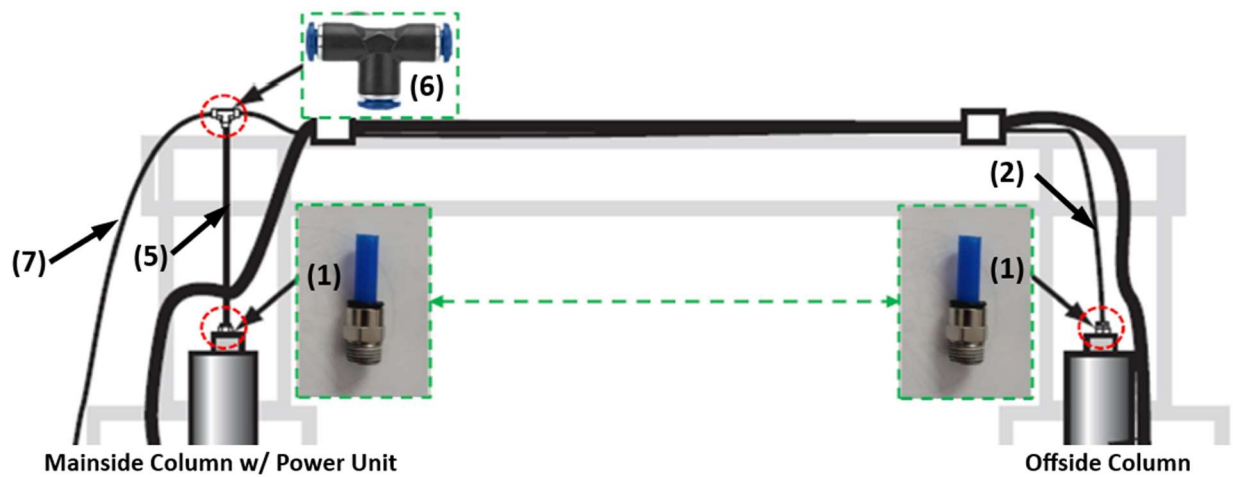

Fig. 11
10. Prior to installing the Extended Height Uprights (3) to top of Columns, ensure to install the Straight Union Air Fittings (1) to the tops of each Cylinder, along with the 'blue' Air Tubing sections (2) & (5) (**Fig. 11**).
13. Pull 'blue' Air Tubing already connected to tops of Cylinders through each Upright. Install the Tee Air Fitting (6) to end of Air Tubing sections (5) and (7) (**Fig. 11**).
14. Install Cylinder Mount Bolts to secure Cylinders to Uprights. Pull 'blue' Air Tubing already connected to tops of Cylinders through each Upright. Install the Tee Air Fitting (6)